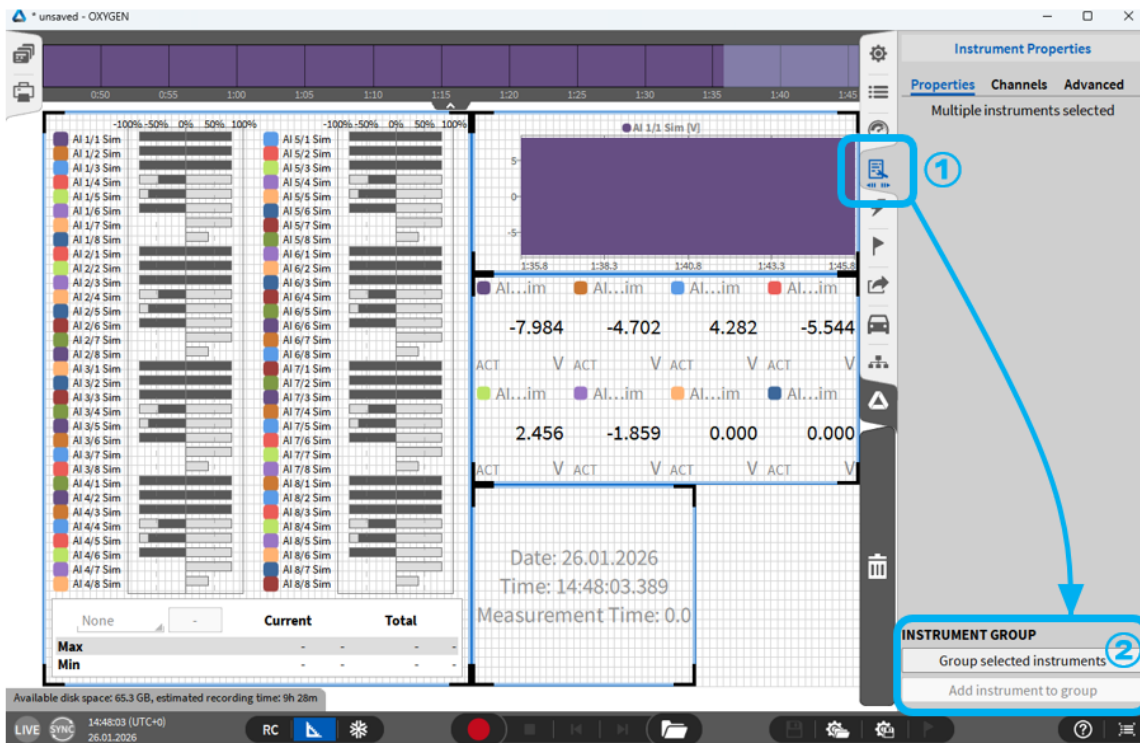

Fig. 8.5: Grouping of instruments
Several instruments can also be grouped together. Therefore, it is necessary to select all instruments which shall be grouped. Press CTRL+A on the measurement screen to select all instruments or hold CTRL and click on the instruments which shall be grouped. To group the selected instruments, click on the instrument properties button (① in Fig. 8.5) and click the “Group selected instruments” (② in Fig. 8.5) button at the bottom. This button is only visible when more than one instrument is selected.